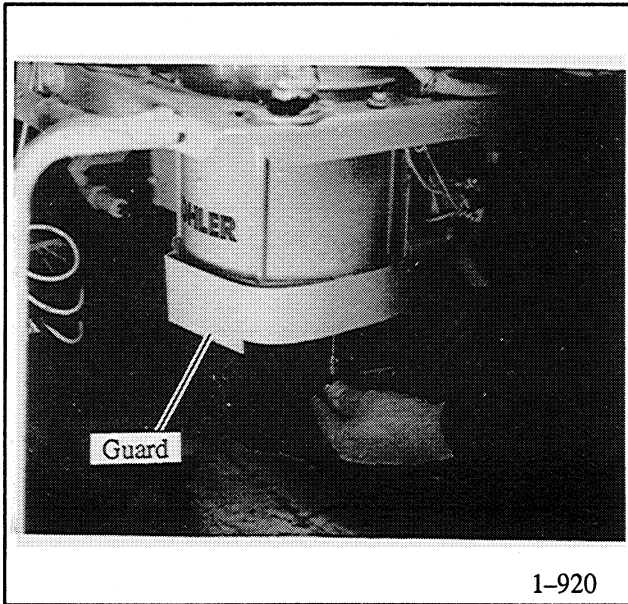

Figure 5-1. Removing Splash Guard.
2. Remove three screws securing splash guard to generator end bracket. (Figure 5-1).